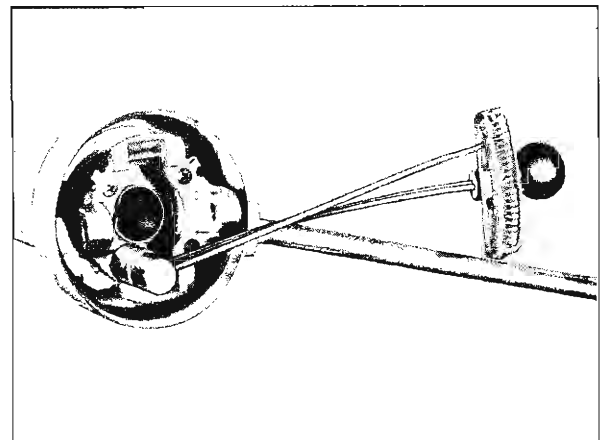

Fig. 32—Installing Actuator Support
5. Install the actuator support on the upper end of the mast jacket. Torque attaching screws to 30-40 in. lbs. (fig. 32).